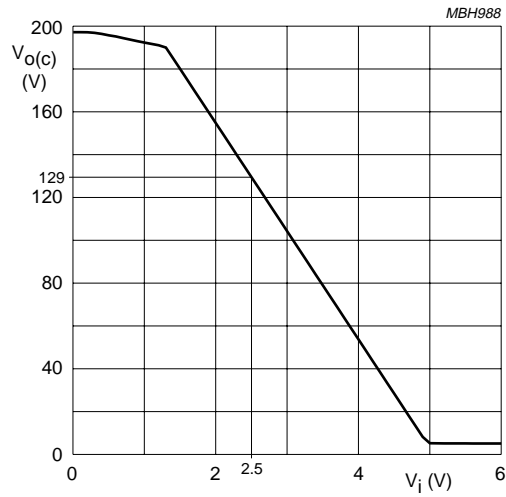

Fig.5 Typical DC-to-DC transfer of  $V_i$  to  $V_{O(c)}$ .
1. See also Fig.5 for the typical DC-to-DC transfer of  $V_i$  to  $V_{O(c)}$ .